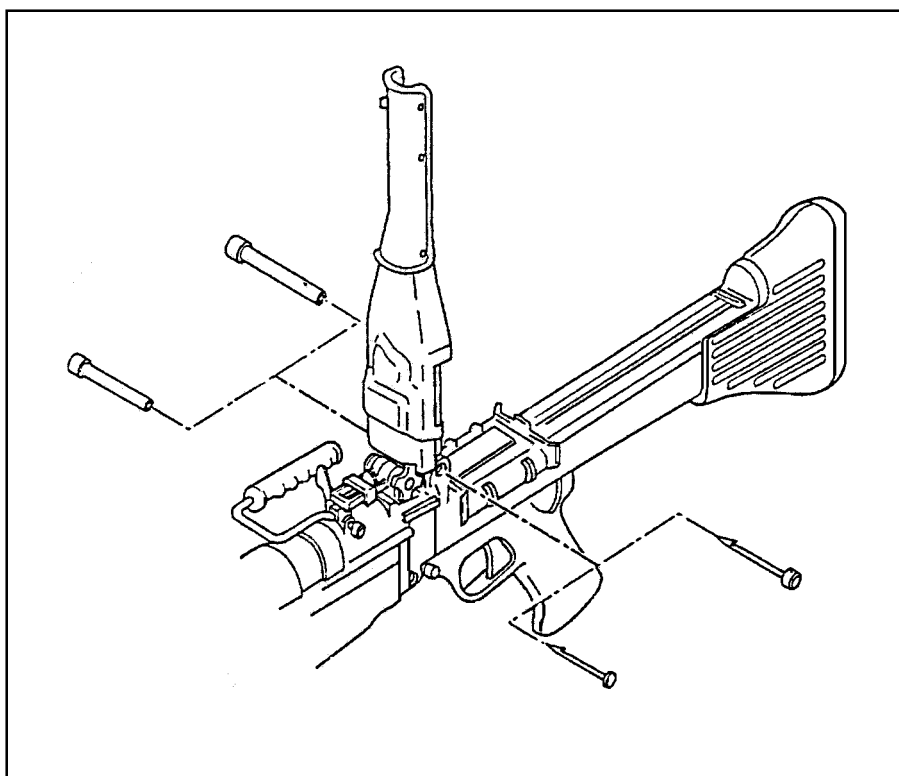

Figure G-31. M60 hinge pin replacement.
- (c) Open the feed tray cover of the M60 and remove the M60 hinge pin and hinge pin latch (Figure G-31, page G-31).